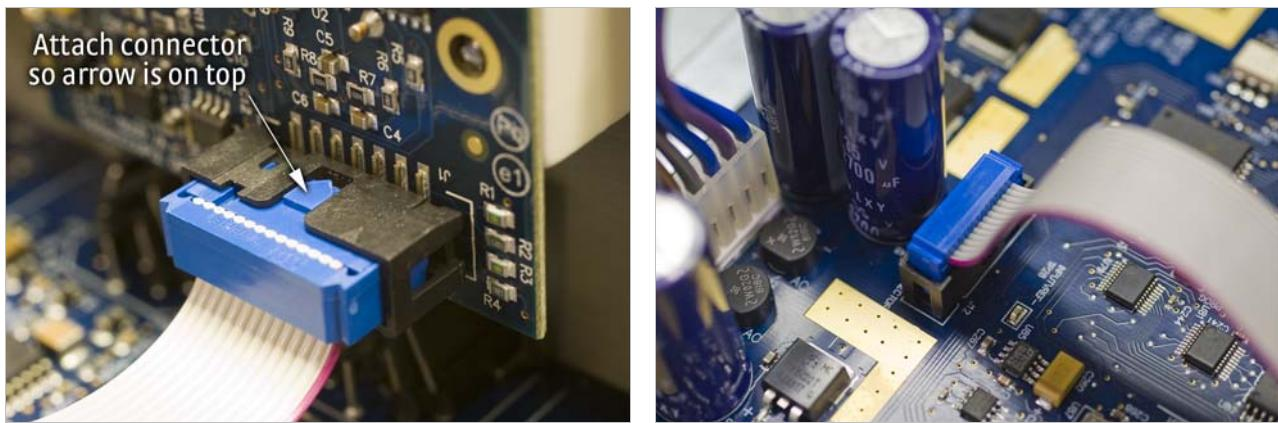

FIGURE 7-5 Proper orientation of the ribbon cable connector plug
10. Insert the 14-pin ribbon cable connector plug into the socket on the option board. Orient the ribbon cable connector plug so that the arrow nub slides into the plug slot, and the ribbon cable exits downward (FIGURE 7-5).